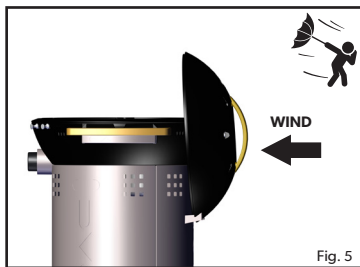

Fig. 5
- NOTE! If the appliance is used in windy conditions, the dome must be used as a wind shield, and placed in position (as shown in fig. 5).